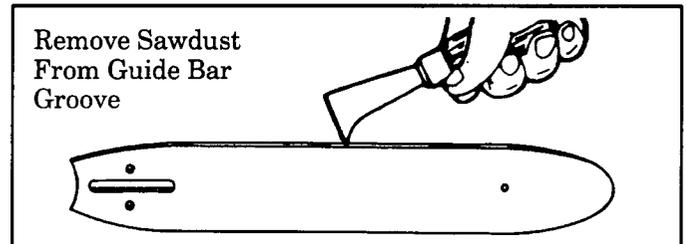

Figure 34
- c. Remove sawdust from the guide bar groove periodically with a putty knife or a wire. Figure 34 .